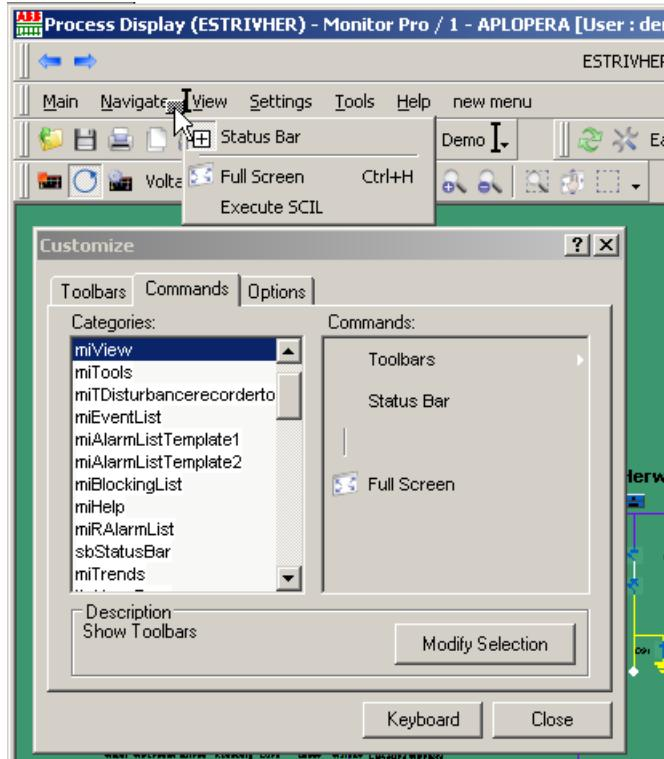

Figure 202: Moving menu command between menus
Move a menu command by dragging it from the existing menu to the new menu, see Figure 202. A new menu command acts as the original menu command.
2. Drag a menu command from the existing menu to the new menu, see Figure 202.